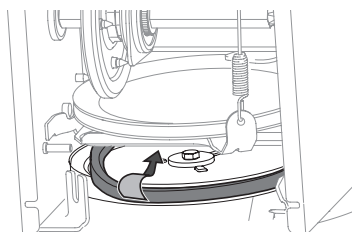

Figure 81
- Remove belt from around auger pulley, and slip it between support bracket and auger pulley (Figure 81).